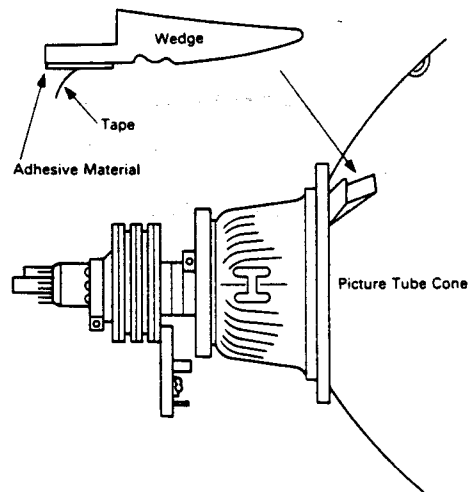

Fig. 19.
- (4) Observe the entire screen and make sure convergence adjustment is completed. If necessary, change the positions of the wedges and repeat steps (1) and (5) above.
(5) After the position of the wedges have been decided, gently turn up the end of the wedge and strip the tape from the rear of the end to expose the adhesive material, then adhere to the picture tube cone. (Fig. 19.)